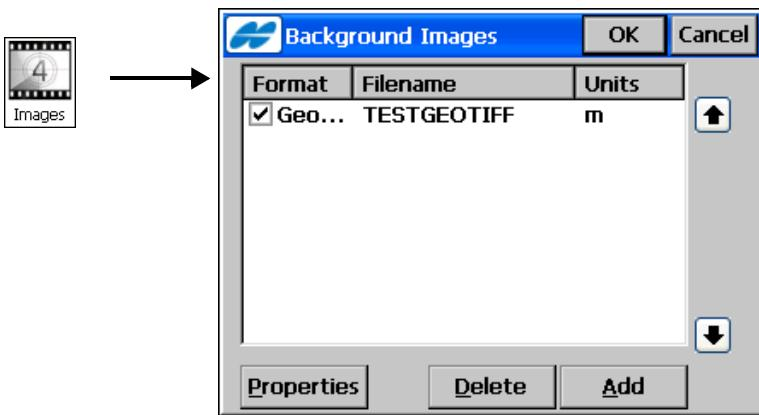

Figure 6-41. Select Image to Open
The **Background Images** screen (Figure 6-41) displays a list of available image files. Initially, the list is empty.
- **OK** – returns to the **Background Images** screen (Figure 6-41 on page 6-37) with the file added to the list. To use a file once it is added, make sure the file is selected in the list.